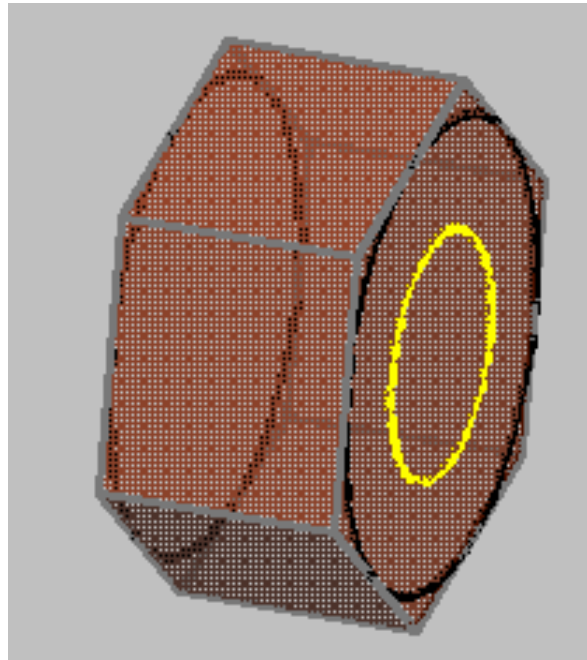

Figure 11
11. Extrude the hexagon to the center of the second circle as shown. (Tip: Shown in Figure 11 in x-ray visual style mode.)